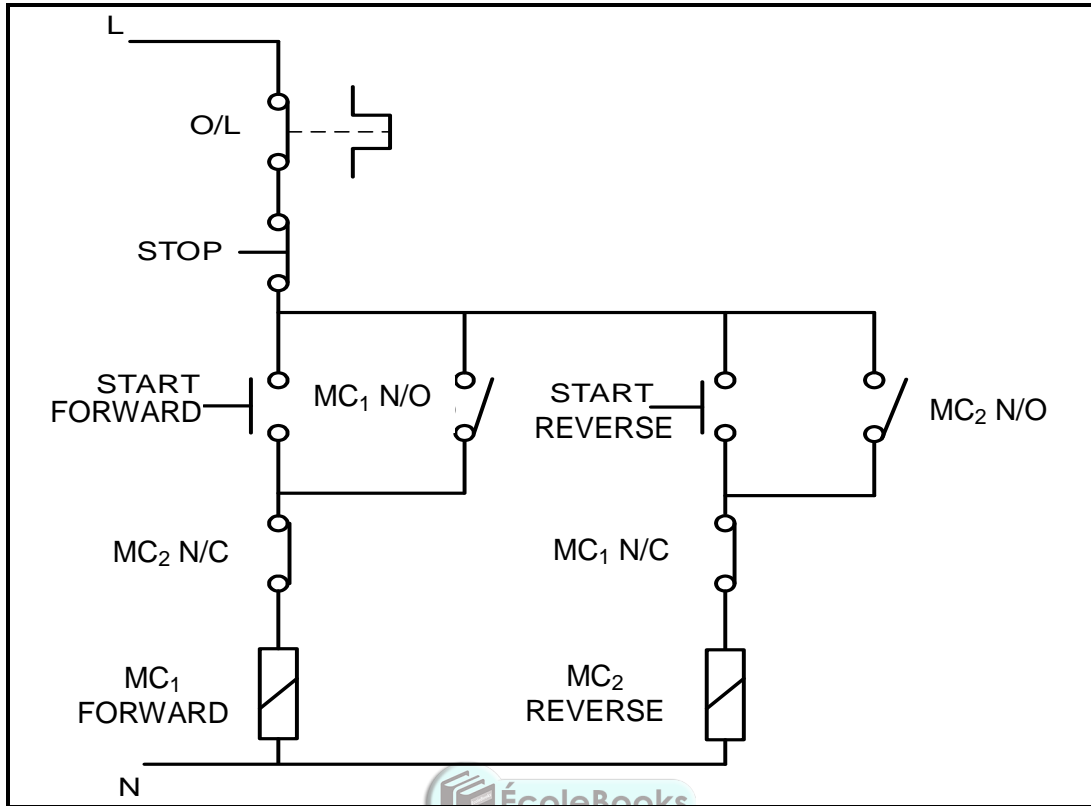

FIGURE 6.9: FORWARD-REVERSE CONTROL CIRCUIT
6.9 Refer to FIGURE 6.9 below and draw the PLC ladder logic diagram that would execute the same function.